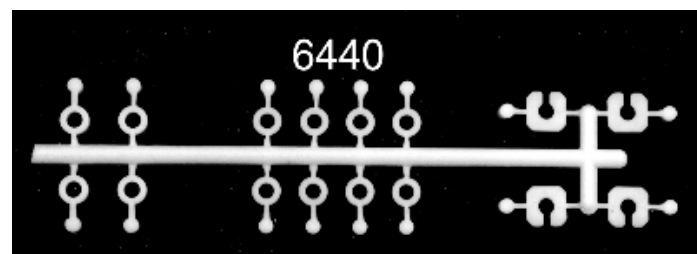

Fig. 116
□ **Figs. 116, 117 & 118** From the shock assembly parts bag remove the #5407 red rings and the new #6440 molded PTFE shock assembly parts. This molded parts tree contains only enough plastic parts to assembly four shocks, so take your time and don't damage or lose any. **Note:** Part number #6440 is also a complete replacement set of O-rings and plastic assembly parts to rebuild four shocks. Fig. 116 gives the part names, as used in the instructions, for each plastic part on the parts tree.